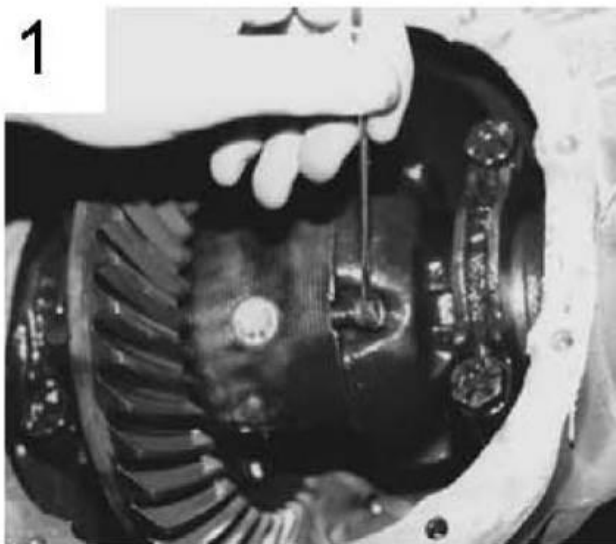
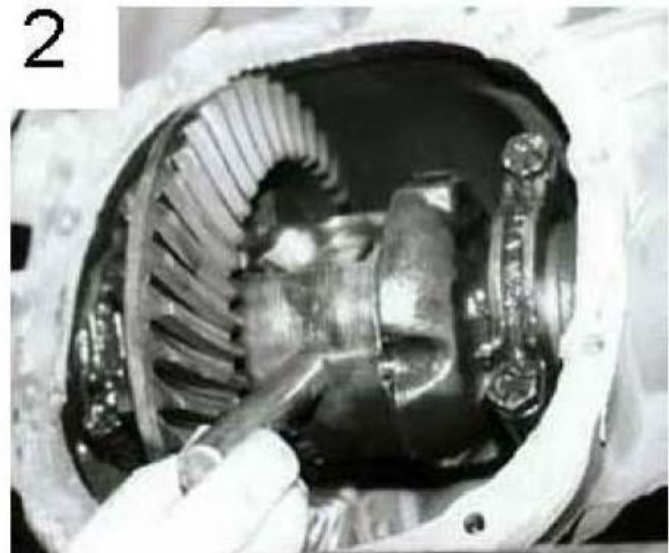

Figure 1 – Bolt Removal
Figure 2 – Cross Shaft Removal
3. Remove the differential pin lock bolt from the carrier that retains the carrier cross shaft. Most GM vehicles use a bolt with a 5/16" or a 1/2" head on the bolt. **NOTE:** A 6-point wrench is recommended as this bolt is usually very tight. Figure 1 shows the removal of the retaining bolt and Figure 2 shows the removal of the cross shaft.